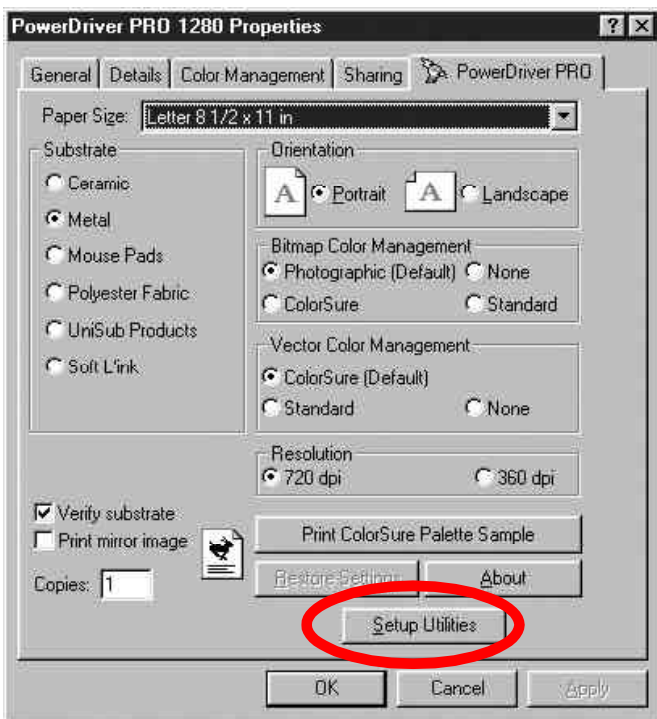

Fig. 1
- iii. Select the PowerDriver PRO tab; see Fig 1.